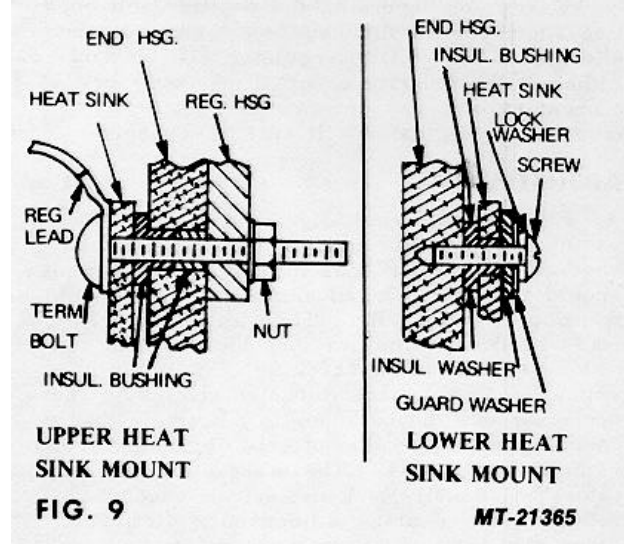

FIG. 9
13. Remove two screws, lockwashers, guardwashers and insulating washers which retain lower end of heat sinks. Remove heat sinks. Note location of insulating washers and bushings (see Fig. 9).